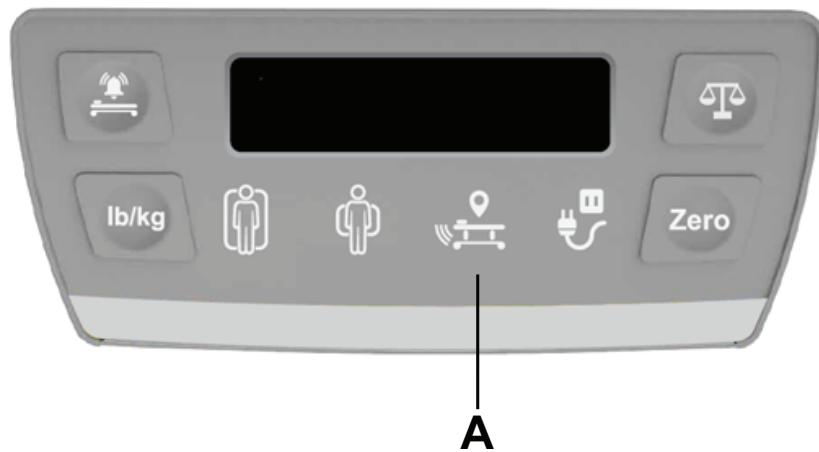

Figure 7 – Location icon
The **Location** icon (A) illuminates green when the product is connected to the **iBed** Locator (Figure 7).